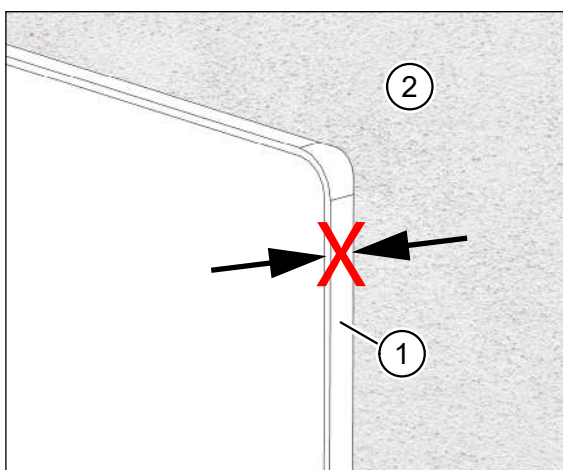

Fig. 26: Plastering trim protrudes over plaster
- The plastering trim (item 1 in Fig. 26) protrudes above the plaster (item 2 in Fig. 26).